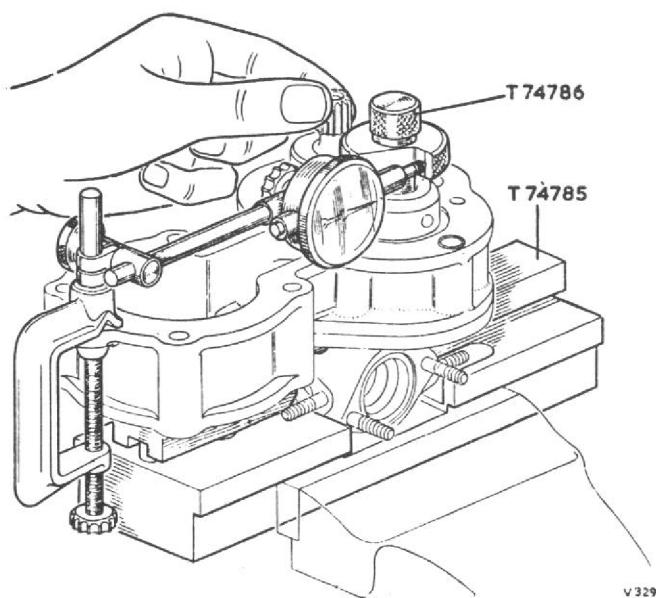

Fig. 3. Oil pump gear backlash check
- (7) Position the oil pump cover to the oil pump body and secure with two plain and spring washers and nuts.
- (8) Ensure that the gears rotate freely.
- (9) Place the pump assembly on vice block T74785.
- (10) Clamp a dial test indicator to a convenient position on the vice block, and check that the end float of the two gears is within the limits.
- (11) Position backlash checking tool T74786 in the bore of the driving gear.
- (12) Re-position the dial test indicator and locate the stylus on the scribed line of the backlash checking tool.
- (13) Lock the oil pump driven gear and check that the backlash between the driven gear and the driving gear is within the limits (fig. 3).
- (14) Oil the gears with clean approved engine oil.